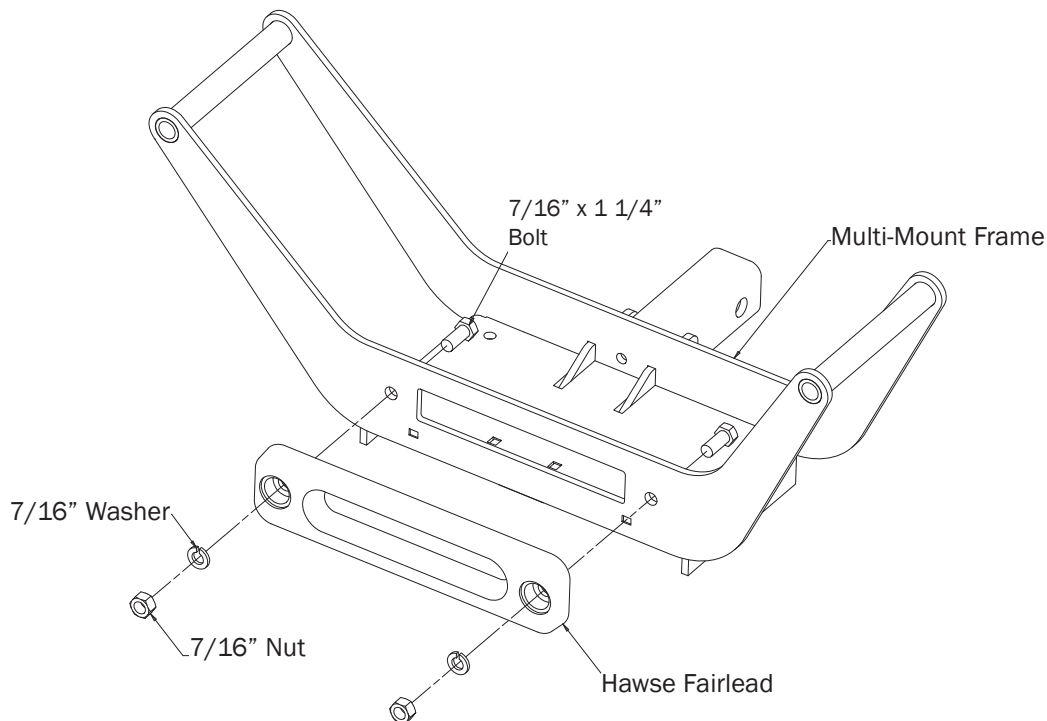

FIGURE 1
1. Install the fairlead on the front of the winch mounting plate (Figure 1.)